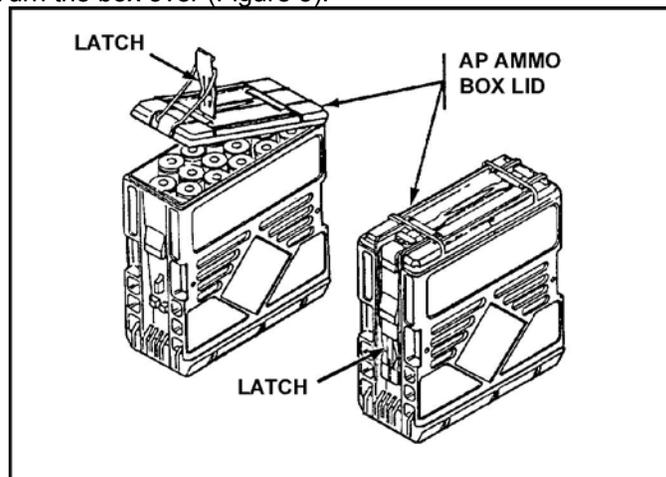

Figure 3. Ammunition box.
b. Place the first ammunition belt in the ammunition box with the rounds pointed down. Close and latch the lid. Turn the box over (Figure 3).